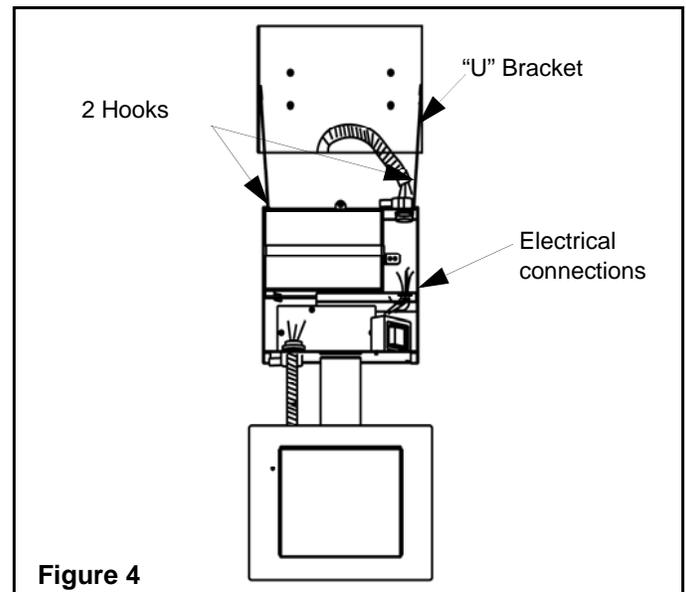

Figure 4
### Equipment installation in the wall (Figures 4 and 5)
1. Suspend the unit upside-down from the "U" bracket using the metal hooks (see Figure 4). Do not hang the unit directly on the drywall edge as this can damage the drywall.